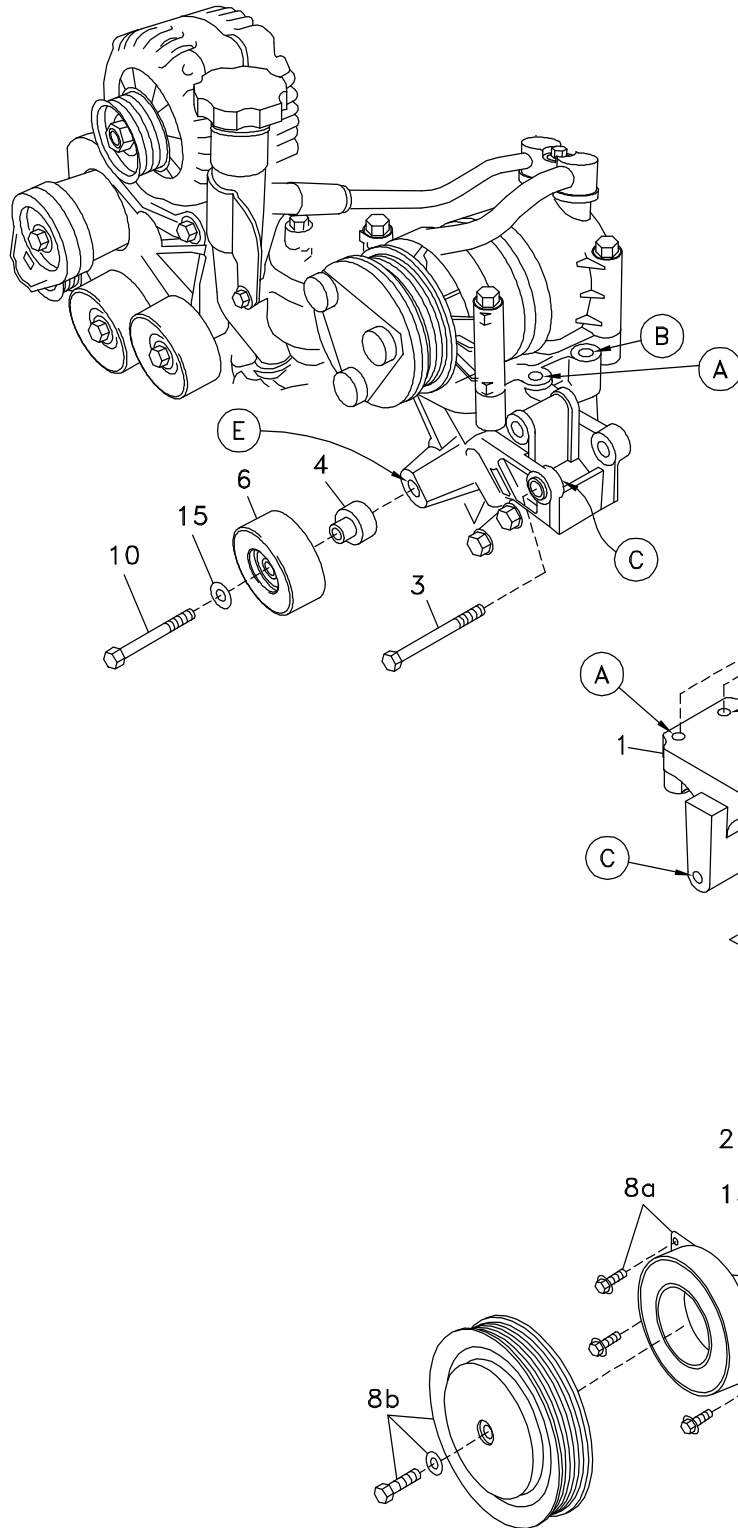

FIG. 5
4. Two idler pulleys are included in this kit to accommodate for different OEM component pulleys. Select the idler pulley that allows proper tensioner stroke (tensioner should rest near middle of full stroke). Push the idler bushing (4) into the back of the idler pulley (6). Insert the M10 x 40 bolt (10) through a 3/8 flat washer (15), through the idler pulley and bushing and into the boss below the air conditioner at Location E.
5. Bolt the base plate (2) to the engine bracket (1) with three 3/8 x 1 socket head bolts (13). Bolt the pump plate (5) to the base plate (1) with one 3/8 x 3/4 socket head bolt (26) and two 3/8 x 1 socket head bolts (13). Torque to 20 ft-lb.
6. Bolt pump (7) onto pump plate (5) with two 3/8 x 1 1/4 bolts (14) and two 3/8 flat washers (15). Torque to 20 ft-lb. Attach coil (8a) with four 1/4 x 1/2 flange bolts supplied with clutch. Torque these to 6 ft-lb. Attach clutch pulley (8b) to pump shaft with 5/16NF x 1 1/4 bolt and heavy washer supplied with clutch. Torque to 14 ft-lb.
7. If the air conditioner bracket has a lug as in Fig. 5, it needs to be cut off for the engine bracket (1) to fit in place.
8. Insert the two M10 x 70 bolts (9) through the holes in the notched end of the engine bracket (1) and into the air conditioner mounting bracket at Locations A and B. Torque to 25 ft-lb. Thread the M10 x 80 socket head bolt (3) into the hole at Location C and through the bottom lug of the pump bracket. Torque to 25 ft-lb.